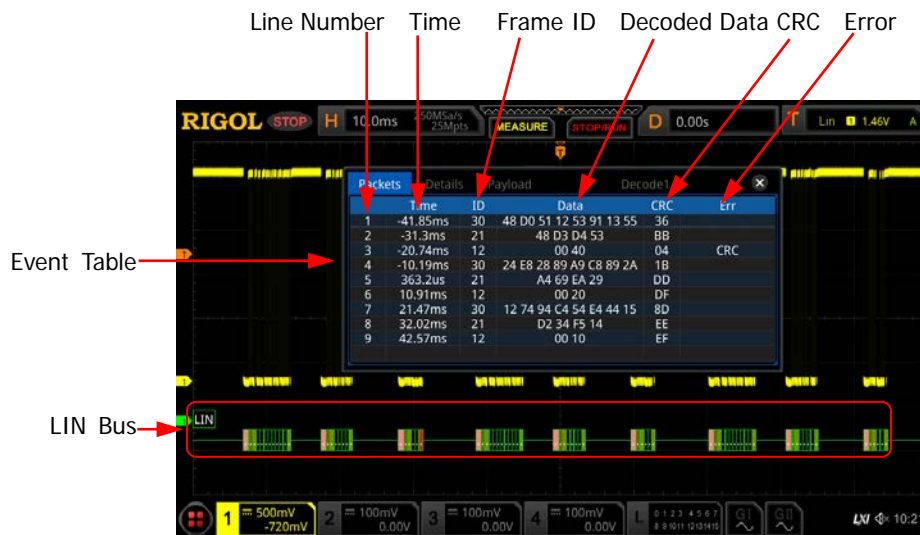

Figure 12-9 LIN Decoding Event Table
- Open or close the event table: Press **Event Table** continuously to enable or disable the event table. When you enable the event table, the following figure is displayed, as shown in Figure 12-9. You can also enable the touch screen to tap the icon  at the upper-right corner of the table to close the event table. Besides, when the operating status is "STOP", you can also rotate the multifunction knob  to select a specified line and view the corresponding decoding information.